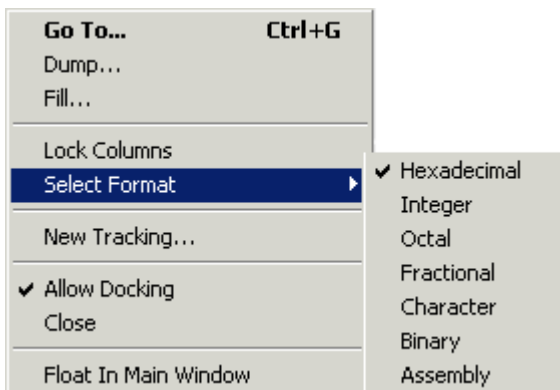

Figure 2-50. Memory Window Right-Click Menu
Memory windows provide the right-click menu shown in Figure 2-50.
The **Select Format** command enables you to change the number format of the display. The available number formats depend on the DSP family and memory type. The format options shown in Figure 2-50 are available for displaying ADSP-2191 DSP program (PM) memory.